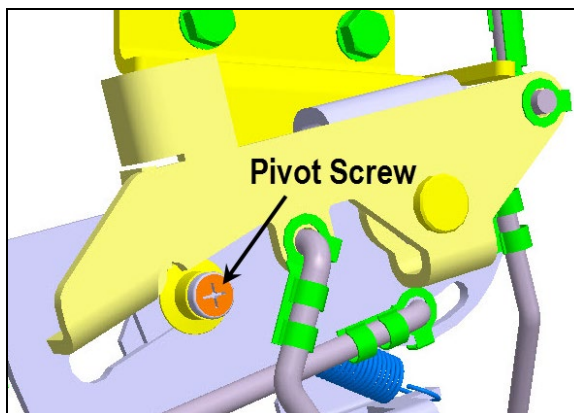
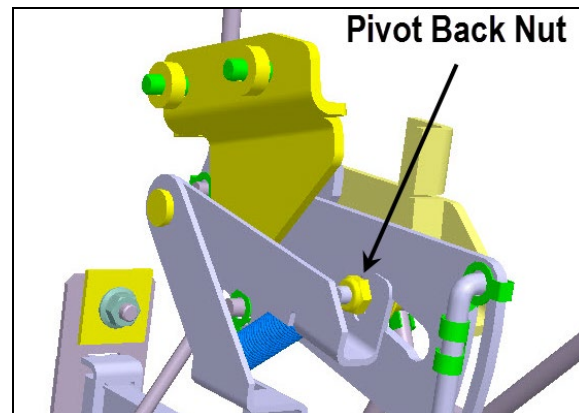

Fig.5
Fig.6
7. Unscrew the mechanism pivot screw (Phillips head shown on Fig.5), use an open end key or other suitable tool to hold the pivot backing nut (Fig.6).